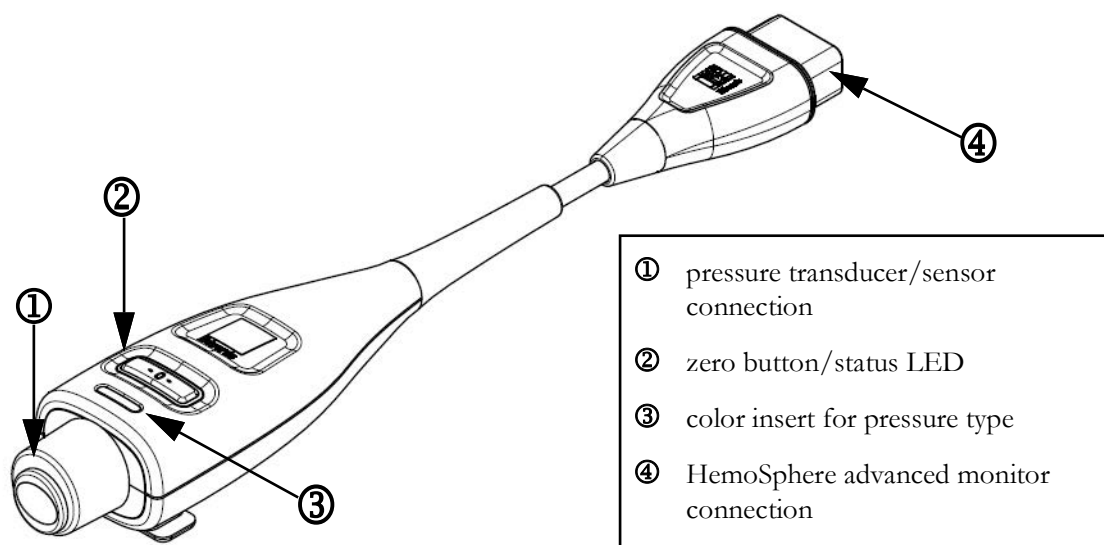

Figure 10-1 HemoSphere pressure cable
The HemoSphere pressure cable is a reusable device that connects with the HemoSphere monitor on one end ④ and any approved single Edwards disposable pressure transducer (DPT) or sensor on the other end ①. See figure 10-1 on page 189. The HemoSphere pressure cable acquires and processes a single pressure signal from a compatible Edwards DPT, such as the TruWave DPT, or a FloTrac sensor. A FloTrac or Acumen IQ sensor connects to an existing arterial catheter to provide minimally-invasive hemodynamic parameters. A TruWave transducer can connect to any compatible pressure monitoring catheter to provide location based intravascular pressure. Refer to the directions for use provided with each catheter for specific instructions on catheter placement and use, and for relevant warnings, cautions and notes. The HemoSphere pressure cable can be monitored through two technology monitoring modes based on the paired sensor/transducer: **FloTrac**, **FloTrac Jr**, or **Acumen IQ** sensor monitoring mode or **Swan-Ganz** catheter monitoring mode. The monitoring mode appears on the top of the navigation bar (see figure 5-2 on page 99). The appearance and connection points for the HemoSphere pressure cable are shown in figure 10-1.
Pressure Type Color Insert. If desired, the appropriate color insert can be used on the pressure cable to indicate the monitored pressure type. See ③ in figure 10-1 below. The colors are as follows:
- Red for arterial pressure (AP)
- Green for cardiac output (CO)
- 7 Use a straight in or out motion to connect the green connector of the primed FloTrac/FloTrac Jr sensor. The pressure cable LED that surrounds the zero button (see ② in figure 10-1) will flash green indicating that the pressure sensor is detected. A yellow light indicates a fault condition. If this occurs refer to the status bar for specific fault condition details.
- Press the physical zero button  directly on the pressure cable and hold for three seconds (see figure 10-1).